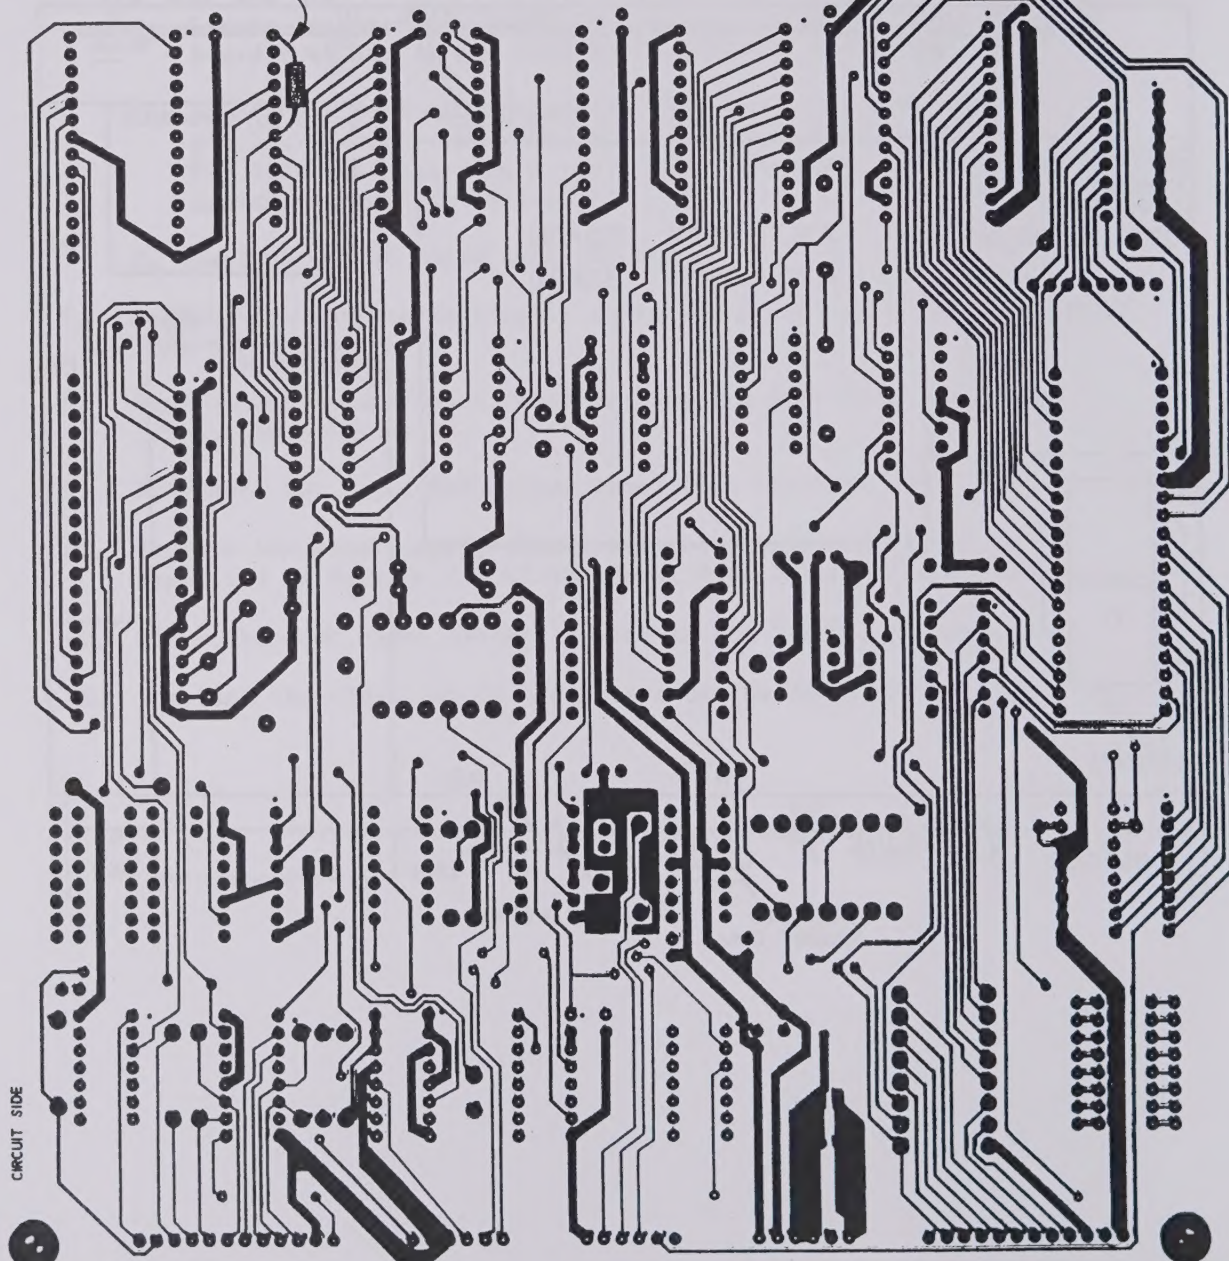

FIGURE 2-2 A6U5 RESISTOR ADD
- C. Solder one lead of the supplied 5.1 K ohm resistor to A6U5 pin 18. Connect the other end of the resistor to A6U5 pin 24. Pin 1 is designated by a small dot. The added resistor should appear as shown in Figure 2-2.